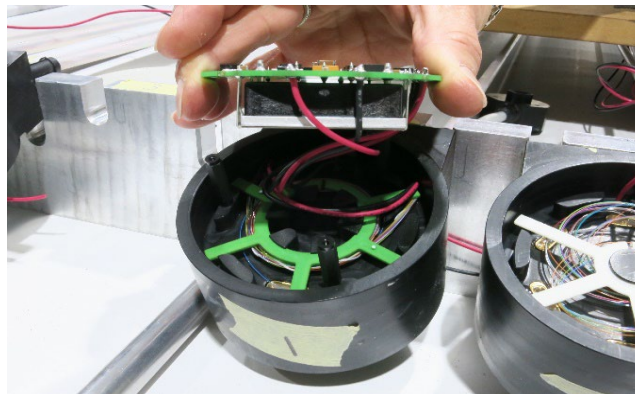

Figure 9 Gently lower the DC/DC converter into place and take care not to damage the wires and fibers.
- Connect the fill hoses according to the table below (see also Figure 9)